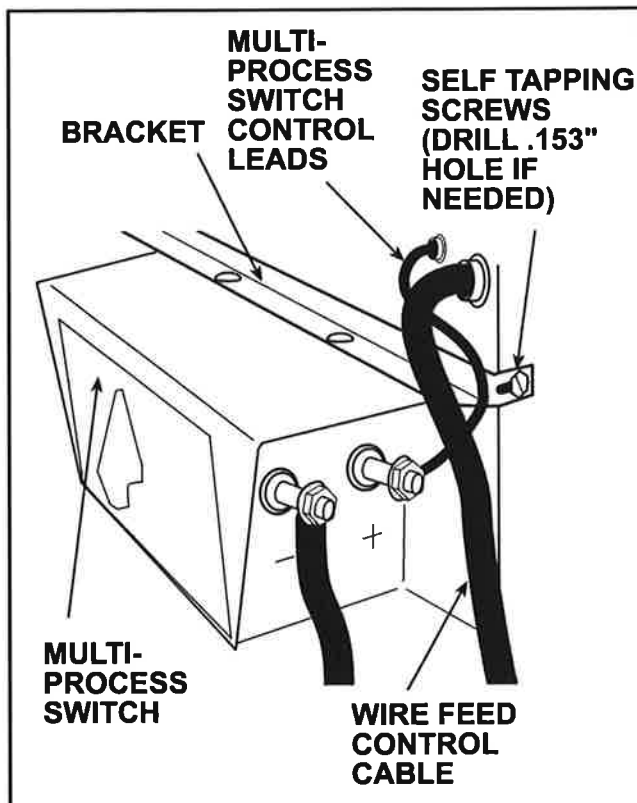

FIGURE C.3 - ATTACHING THE MULTI-PROCESS SWITCH BRACKET.
- Attach the MULTI-PROCESS SWITCH bracket across the front of the machine with the flange down. Use the long, self-tapping screws and lock washers provided. The bracket should be on the outside of the side panel. See Figure C.3.
- Position the MULTI-PROCESS SWITCH at the front of the machine. See Figure C.3.
- Route the MULTI-PROCESS SWITCH control leads through the strain-relief box connectors and into the terminal strip. The wire feeder control cable is routed through the strain-relief box connector also. See Figure C.3.